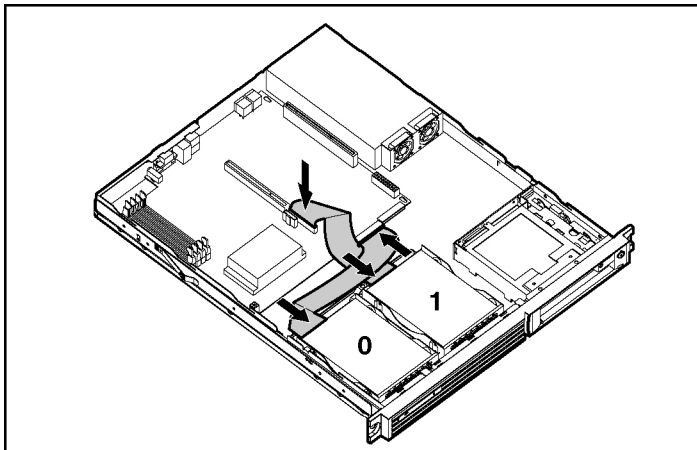

Figure 3-21: Cabling the ATA hard drives
ATA hard drives installed in the server appear as Devices 0 and 1, from left to right when viewed from the front of the server. Refer to Figure 3-21.
Each SCSI hard drive must be assigned a unique ID. The system begins searching the drive with the lowest numbered ID for a bootable partition. The jumpers on a factory-installed hard drive are set to ID 0. For illustration purposes in this document, we assume the devices are numbered ID 0 and ID 1, with ID 0 containing the desired boot partition. Refer to Figure 3-21 for an example.
4. Remove the ATA cable from the system board and store for later use. Refer to Figure 3-21.